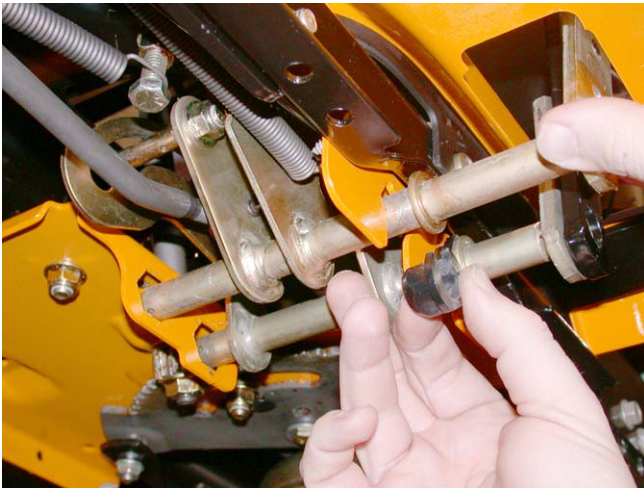

Figure 24.18
24.18. Slide both shafts outboard far enough to create clearance to remove the outer shaft bushings, and remove the bushings. See Figure 24.18.